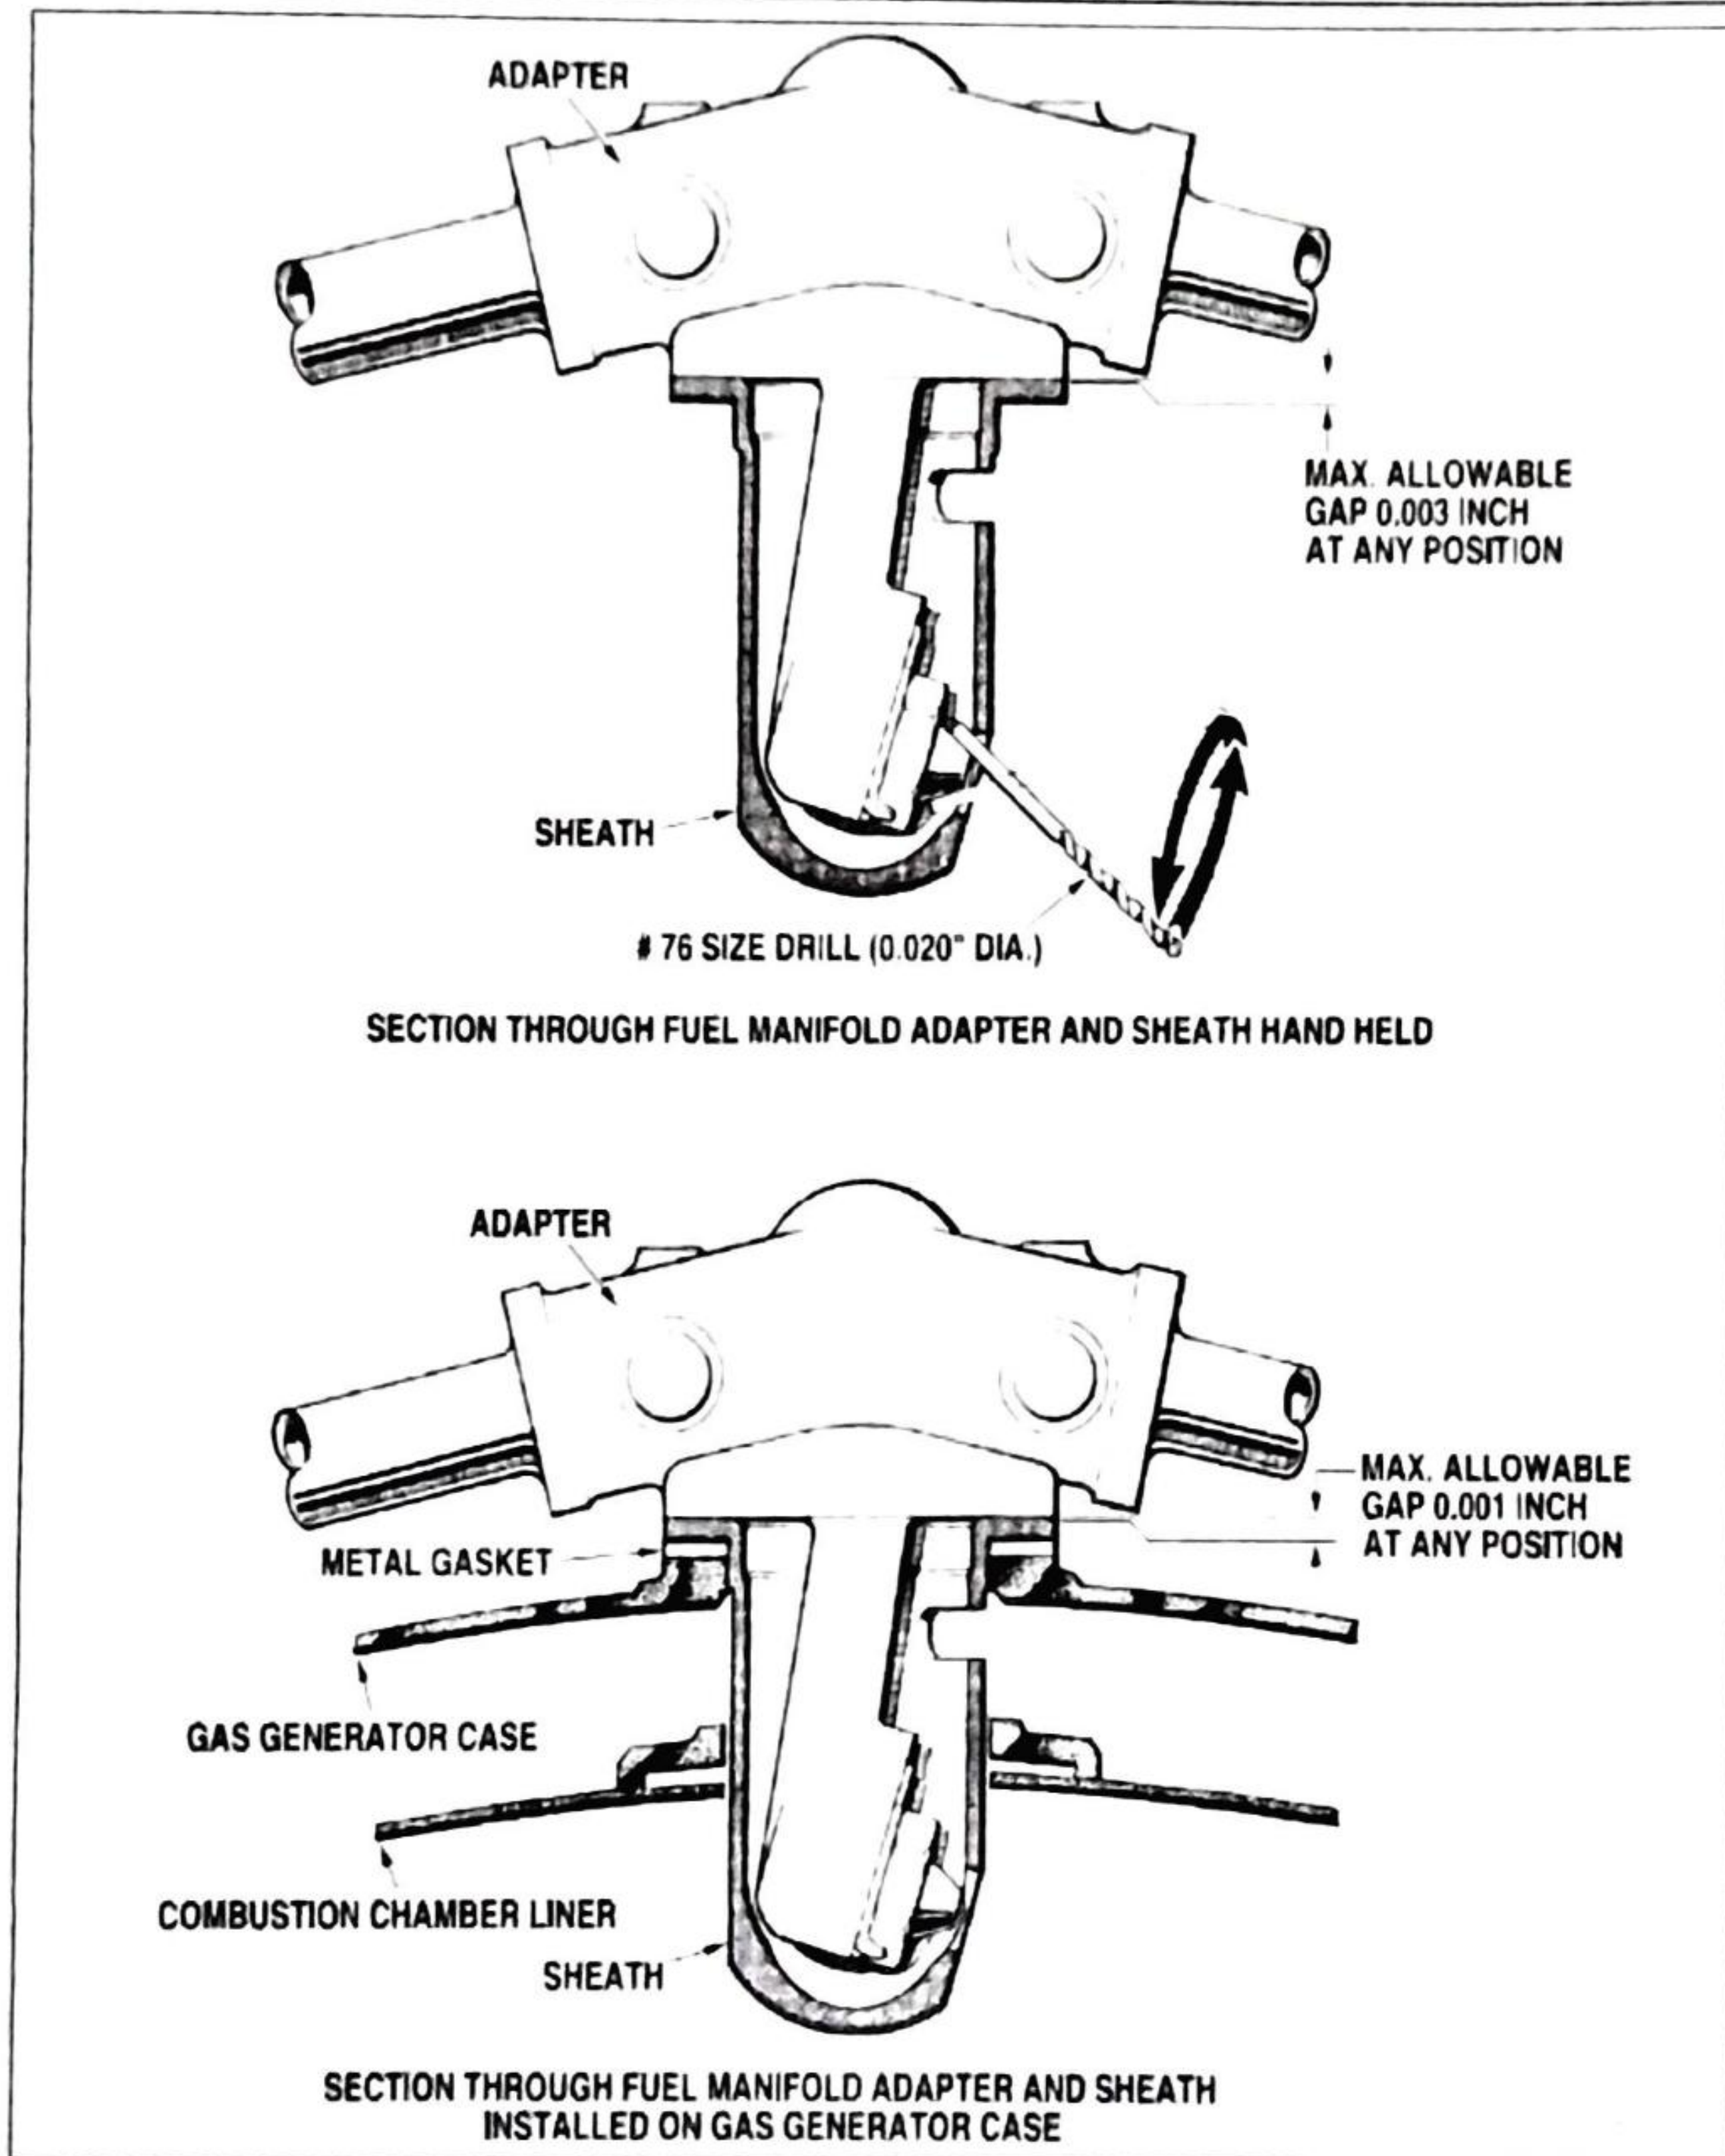

Figure 203 Fuel Manifold Installation - Clearance Checks
b) With Nozzle adapter and sheath pressed together by hand, check clearance between adapter and sheath flanges. Maximum gap allowed is 0.003 inch (Ref. Fig 203 upper drawing) Larger gap suggests either or both parts are distorted. If found Send distorted parts to parts P & W for repair.
c) Carefully check gap between fuel nozzle tip and side hole in sheath; clearance of 0.020 inch is required (Ref. Fig 203). If clearance is less at any point, either or both parts are distorted. If found Send distorted parts to parts Pratt and Whitney for repair.
NOTE: After torqueing, a 0.001 in. gap is allowed between the adapter and sheath flanges (Ref. Fig. 203 lower drawing).